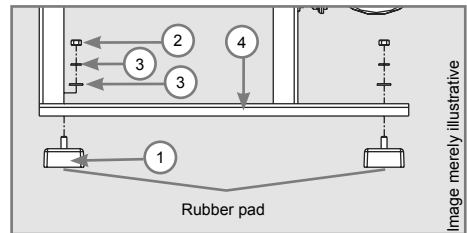

Figure 11
- ✓ The rubber pads (1) are supplied dismantled, in order to mount the pads (1), remove the nuts (2) and washers (3) from the screw and mount in the holes located in the ES-450 frame mounting base (4). Then, place the washers and the nut and slightly tighten it, as shown in the Figure 11.